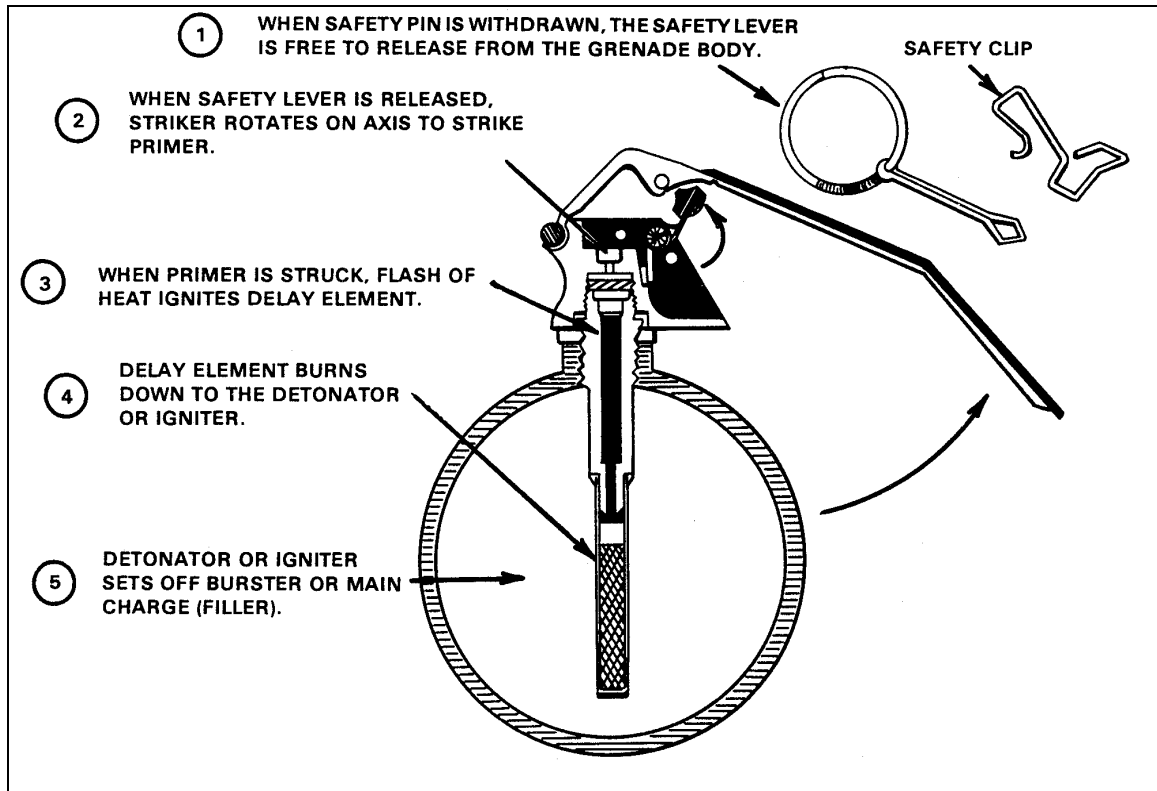

Figure 1-2. Fuze functioning.
c. **Release Pressure on Lever.** Once the grenade is thrown, the pressure on the safety lever is released, and the striker is forced to rotate on its axis by the striker spring, throwing the safety lever off. The striker then detonates the primer, and the primer explodes and ignites the delay element. The delay element burns for the prescribed amount of time then activates either the detonator or the igniter. The detonator or igniter acts to either explode or burn the filler substance (Figure 1-2).